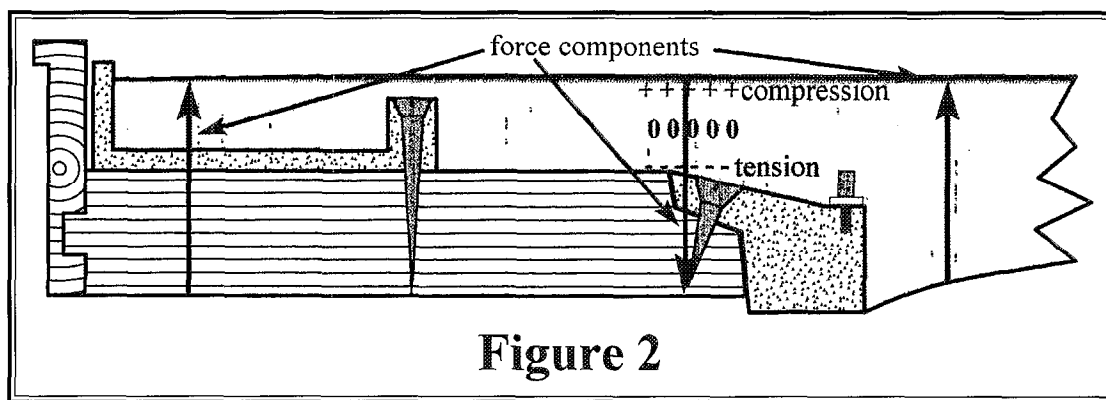

Figure 2
must be under greater stress than it has the strength to resist, and, second, this stress must be tension; a plate member under compression will not crack. Figure 2 shows the uncracked portion of the plate and includes the force components
2. These forces are consistent with Figure 2 of "Bechstein Pinblocks."